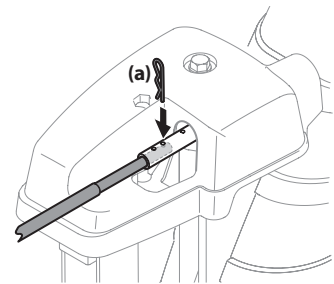

Figure 2-34
6. Push chute control rod toward the control panel until hole in rod lines up with middle hole in chute control input and insert cotter pin (a) removed in Step 1. See Figure 2-34.